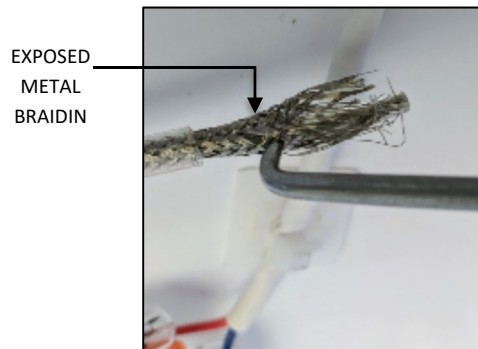
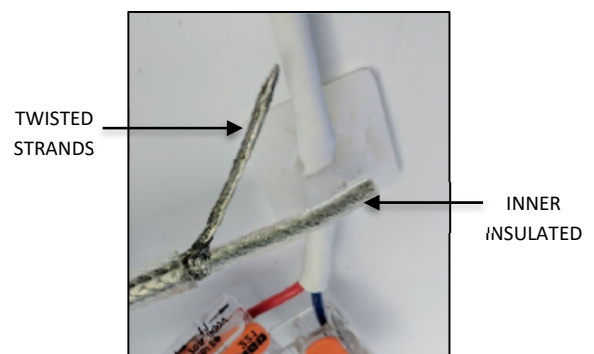

FIG. 28
FIG. 29
- Using a small pointed object, begin unweaving the exposed metal braiding as shown in FIG. 28 below. Position the unwoven metal strands on one side of the inner insulated wire and twist the individual strands together as shown in FIG. 29 below.